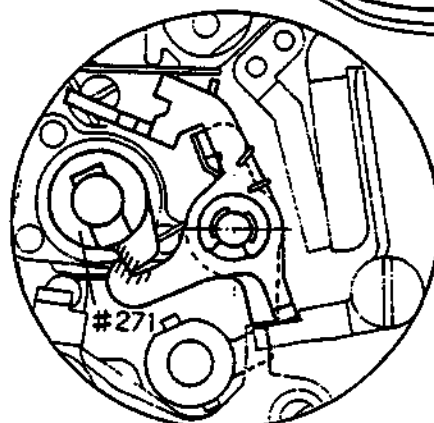

fig. 5-2 Body, wind-side, top
2) Install #271 in place as shown in fig. 5-2.